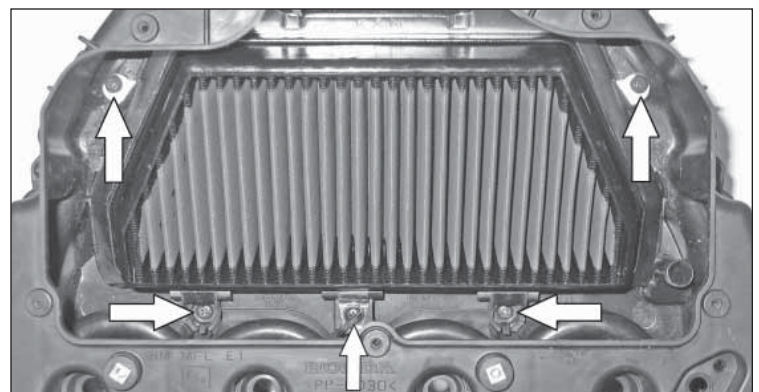

Fig. 6
7. Start the two screws on the filter plate first, drive the screws a majority of the way into the air box, then tighten the 3 screws next to the air horns. (Fig.6)